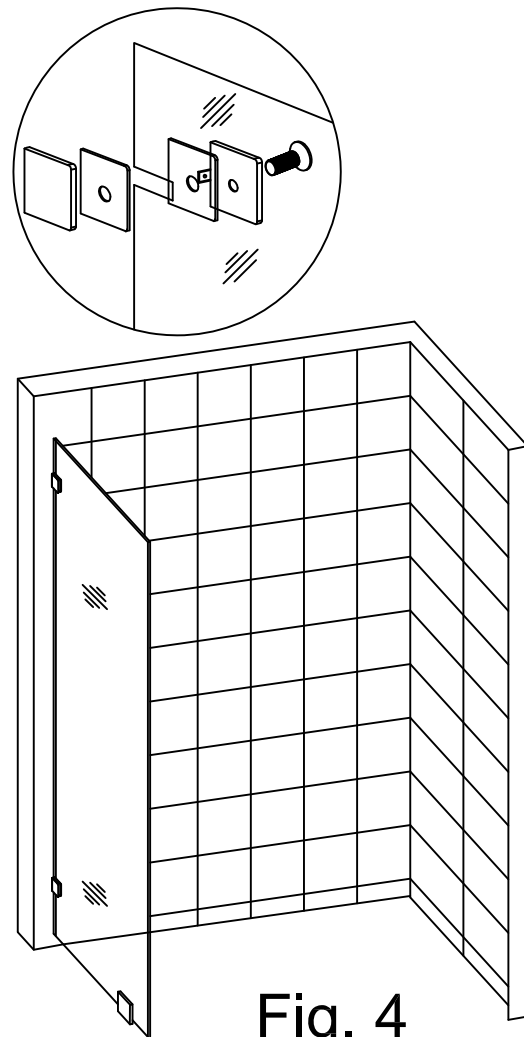

Fig. 4
See Fig.4 for details.
- Slide the Small fixed Glass Bolt Assembly (21) onto end of Top Rail(2) opposite the Large Fixed Glass connection hardware. See Fig.4 for details.